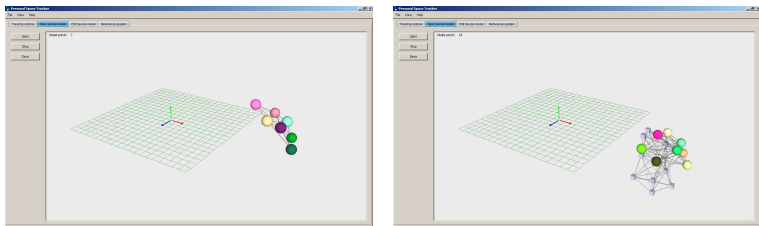

Figure 6.10. Training in progress
2. Select the tracker to use for training and press the “Start” button in the training window. The training live view is updated and displays the 3D points corresponding to the visible markers. An example training session is shown in Figure 6.10. The colors encode the different markers in the device model. Grey cubes indicate that a previously visible marker is occluded and its position is being predicted by the Personal Space Tracker. The training live view can be manipulated in the same way as the tracking live view (see Section 6.3).